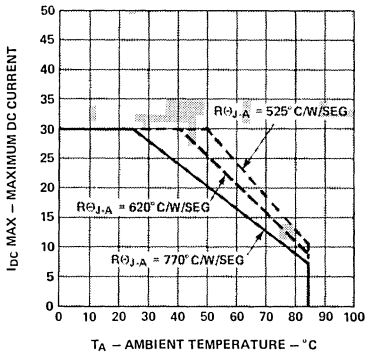

Figure 1. Maximum Allowable Average Current per Segment as a Function of Ambient Temperature
2. Derate maximum average current above  $T_A = 25^\circ\text{C}$  at  $0.38\text{ mA}/^\circ\text{C}$  per segment, see Figure 1.